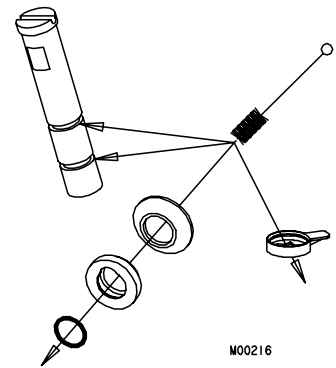

Figure 6-6 Clean O-ring grooves, seal and nozzle with brush.
c. The shaft cup seals, washers, and O-rings, plunger O-ring grooves and nozzles, as shown in figure 6-6.